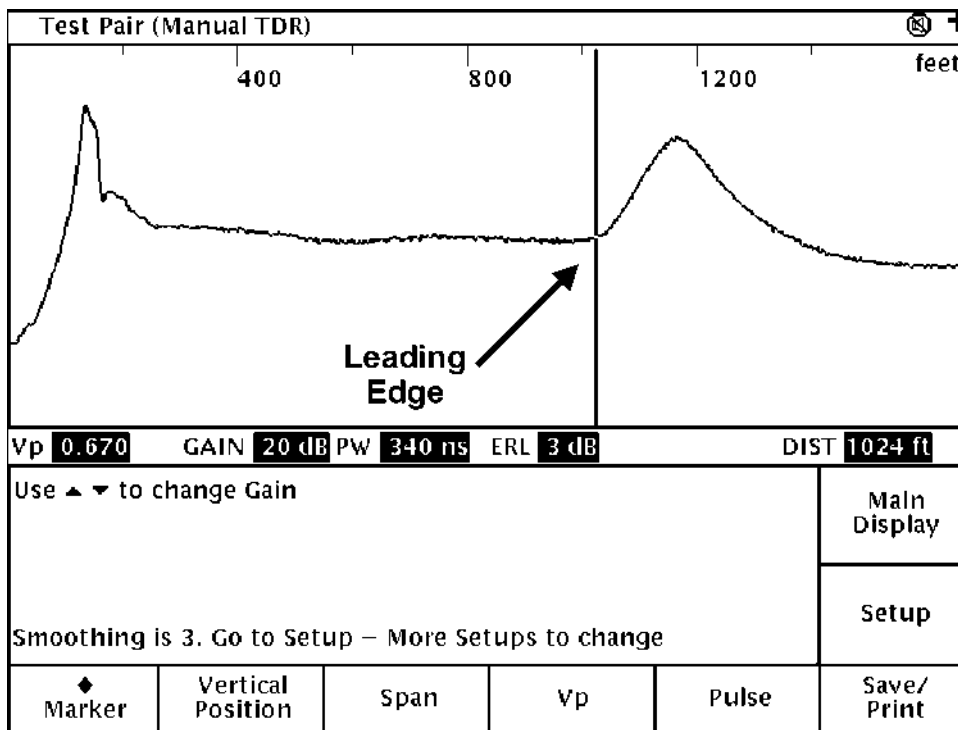

Figure 13-3. Cursor placement.
Step 10. Use the left and right arrow keys to move the cursor to the leading edge of the reflected pulse (the open end of the cable) (see Figure 13-3).